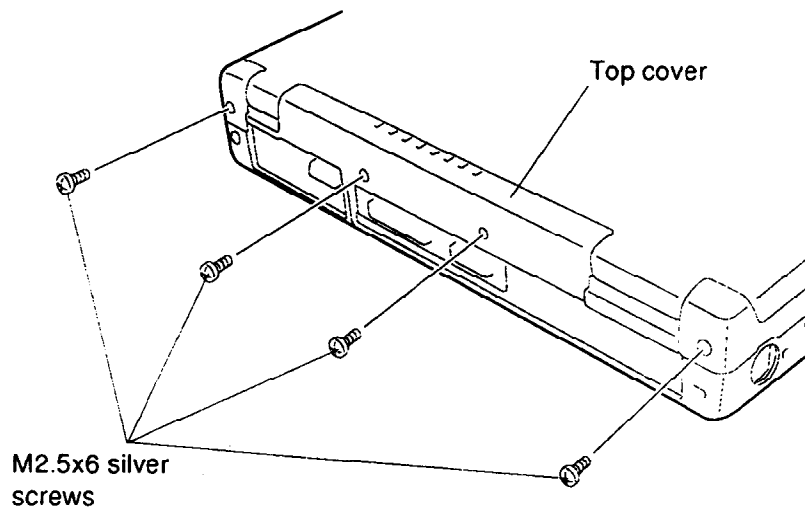

Figure 4-5 Removing Top Cover Screws
To remove the T1900/T1900C's top cover, follow the steps below and refer to Figures 4-5 and 4-6.
3. At the back of the computer, remove the **four M2.5x6 silver screws** securing the **top cover** (Figure 4-5).
To install the T1900/T1900C's top cover follow the steps below and refer to Figures 4-5 and 4-6.
5. Secure the **four M2.5x6 silver screws** at the back of the unit (Figure 4-5).